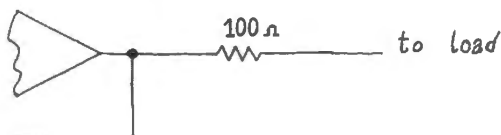

Figure 9L.6 Series R can take shifted point outside feedback loop.
- Series R : take the load outside the feedback loop. Put a 100Ω to 220Ω resistor in *series* with the BNC cable, and *outside* the feedback loop, as in Fig. 9L.6. See if this stabilizes the amp.